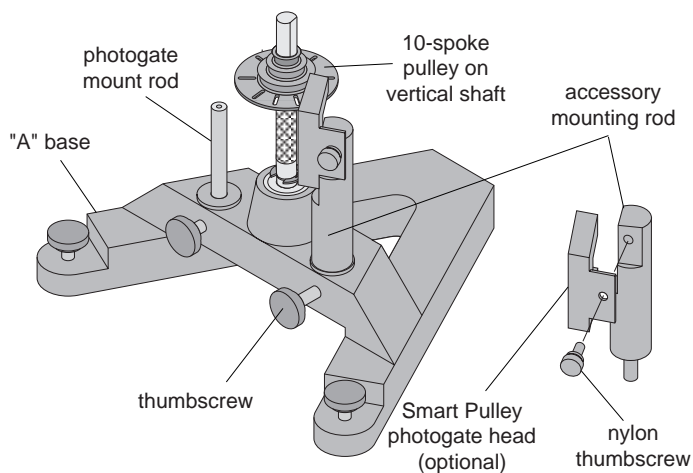

Figure 3: Using the Accessory Mounting Rod With the Smart Pulley
- ① To install, first mount the black rod to the base by inserting the rod into either hole adjacent to the center shaft on the base.
- ② Mount the Smart Pulley photogate head horizontally with the cord side down. Align the screw hole in the photogate head with the screw hole in the flat side of the black rod. Secure the photogate head with the thumb screw. See Figure 3.
- ③ Loosen the thumb screw on the base to allow the black rod to rotate. Orient the rod and photogate head so the infrared beam passes through the holes